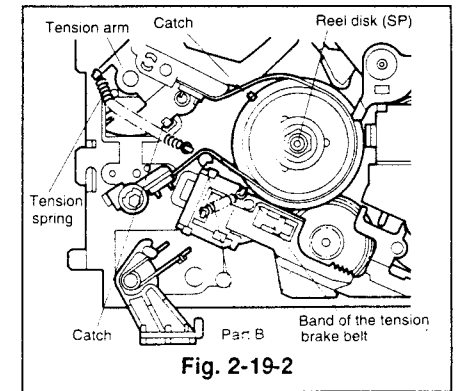
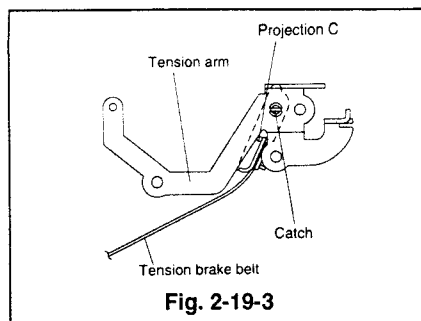
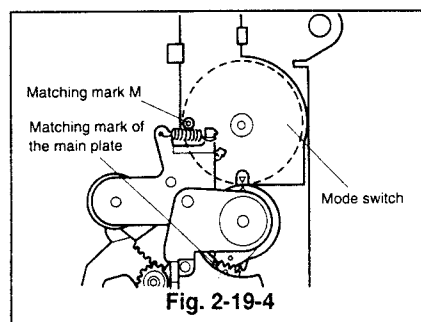
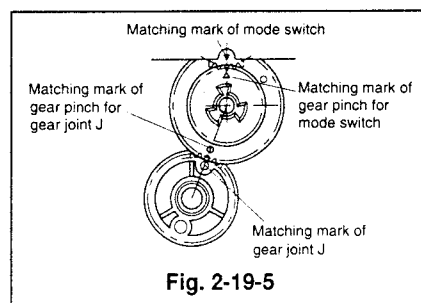

Fig. 2-19-2
Fig. 2-19-3
Fig. 2-19-4
Fig. 2-19-5
- 5 Remove the tension spring, unfasten the catch shown in Fig. 2-19-2, and raise the tension arm upward to remove it.
- 6 Reverse the tension arm, unfasten the catch with a tweezers as shown in Fig. 2-19-3 to remove the tension brake belt.
- ① Insert the catch in the position of the tension arm as shown in Fig. 2-19-3 to fasten the tension brake belt on the tension arm. (Take care not to let projection C, next to the catch of the tension brake belt touch the tension arm.)
- ② Install the tension arm, where the tension brake belt is fastened, on the main plate.
- ③ Fasten the tension brake belt around the supply reel disk. (The band of the tension brake belt must pass the outside of the catch shown in Fig. 2-19-2 and inside of the part B.)
- ④ Attach the tension spring.
- ⑤ Install the sub brake(SP) and sub spring(SP). (Refer to Para. 2-14 for the installation method.)
- ⑥ Supply voltage(approximately 5V), reversing the polarity used in ② of the Removal method, to set the motor to the unloaded position.
- ⑦ Make sure that the holes (matching mark M) on the body and cogwheel of the mode switch align with each other as shown in Fig. 2-19-4. At the same time confirm that the hole of the gear pinch aligns with the matching marks of the gear joint J and the ▽mark on the mode switch cogwheel, refer to Fig. 2-19-5. This indicates the J deck is in the EJECT mode.
- ⑧ If the deck is not completely set to the eject mode, turn part D of the pulley worm J by hand to set the eject mode.